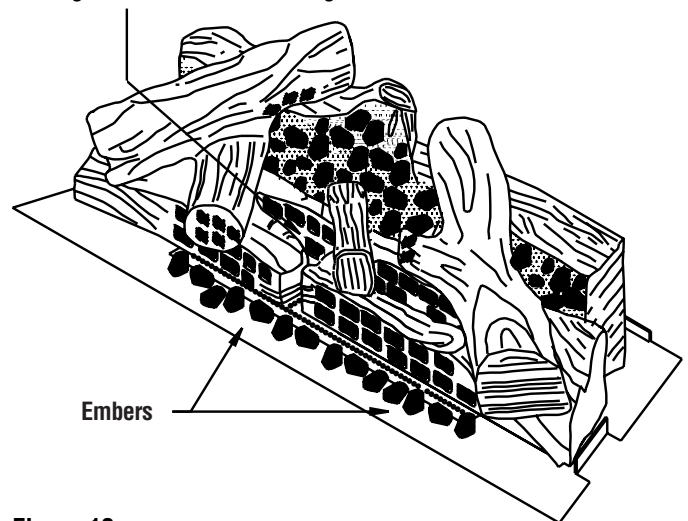

Figure 13
- 8) Figure 13 shows the entire log set assembled. The embers provided may be placed one high in front of the front burner tube using care not to cover all the burner ports. Any extra embers may be placed at the ends of the front log, off the burner. Place small pinches of rockwool on top of the embers.